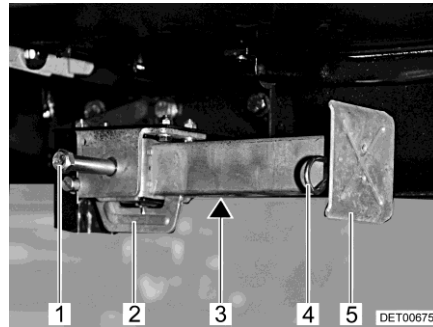

Fig. 39 Steady leg
- Place the socket spanner on the hexagon nut (Fig. 39,1) and rotate until the steady leg is in a perpendicular downward position.
- If the length of the steady leg can be adjusted, remove the splint (Fig. 39,4) out of the support foot extension (Fig. 39,5).
- Place the socket spanner on the hexagon nut (Fig. 39,1) and rotate until the steady leg is clear of the ground.
- Push in the support foot extension (Fig. 39,5) and insert the splint (Fig. 39,4) in the drilled hole in the support foot extension.
- Rotate the hexagon nut (Fig. 39,1) until the steady leg has swung upwards and the guide (Fig. 39,2) has reached the very end of the slot (Fig. 39,3).